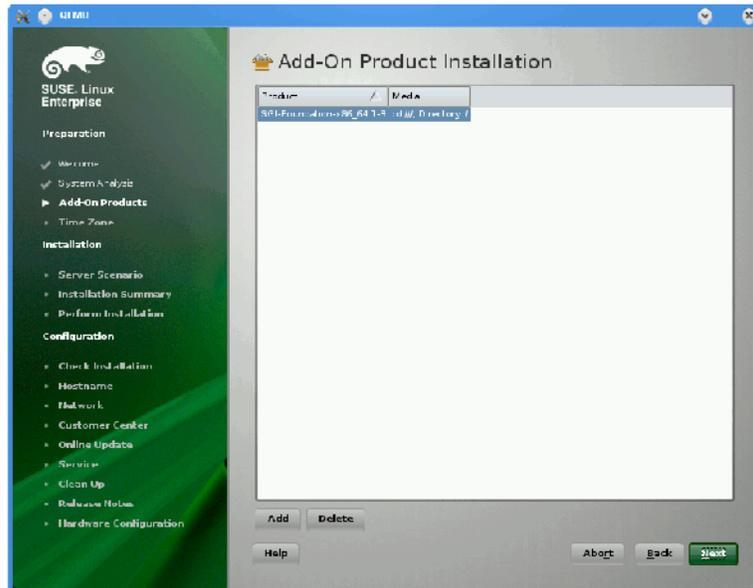

Figure 1-15 SLES11 SP1 Add-On Product Installation Screen Showing SGI Foundation
5. From the **Add-On Product Installation** screen, as shown in Figure 1-15 on page 23, click on **SGI-Foundation-x86_64 1-6 cd:///Directory** and click the **Add** button and then **Next** to proceed